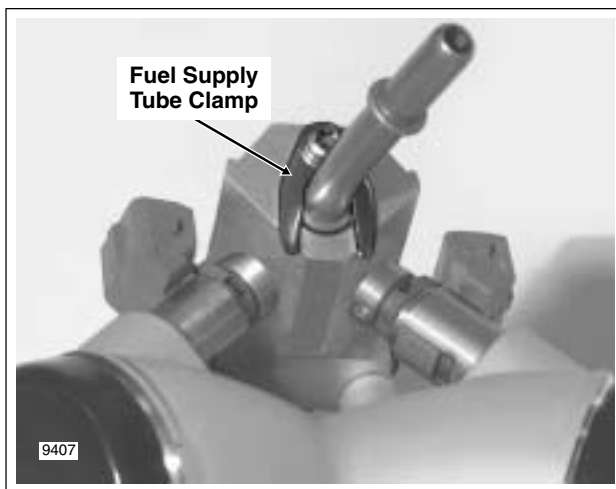

Figure 9-28. Remove Fuel Supply Tube Clamp
3. Using a T20 TORX drive head, remove screw to release fuel supply tube clamp. See Figure 9-28.
6. Align hole in fuel supply tube clamp with hole in fuel rail. Using a T20 TORX drive head, install screw and tighten to 27-33 **in-lbs** (3.0-3.7 Nm). See Figure 9-28. Rotate fuel supply tube so that it angles downward.
- Align hole in fuel supply tube clamp with hole in fuel rail. Using a T20 TORX drive head, install screw and tighten to 27-33 **in-lbs** (3.0-3.7 Nm). See Figure 9-28. Rotate fuel supply tube so that it angles downward.